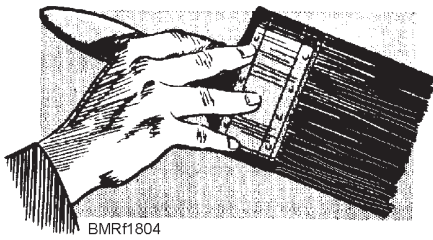

Figure 18-4.—Correct way to hold a brush.
- Grip the brush firmly, but lightly as shown in figure 18-4. Don't put your fingers on the bristles below the metal band (ferrule). The grip shown permits easy wrist and arm motion. To hold it otherwise restricts your movements and causes undue fatigue.